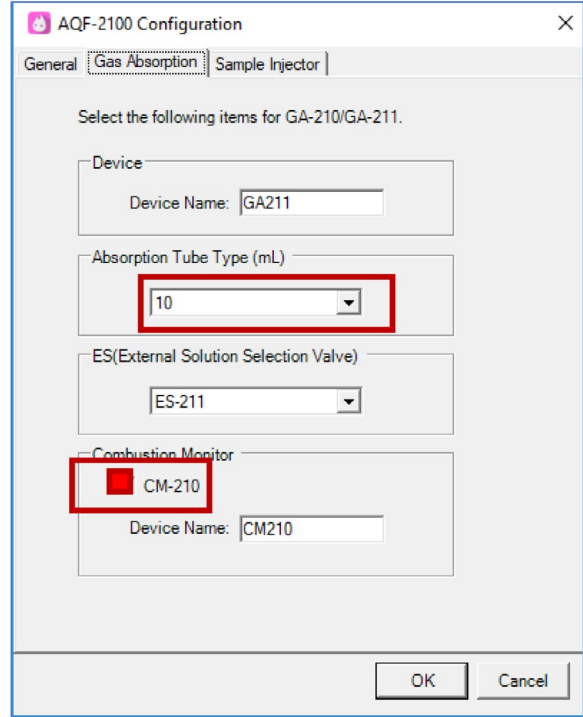

Figure 7. Gas Absorption tab. Select the Absorption Tube Type and check the CM-210 box.
4. Select the Gas Absorption tab. Select the absorption tube volume (Figure 7).